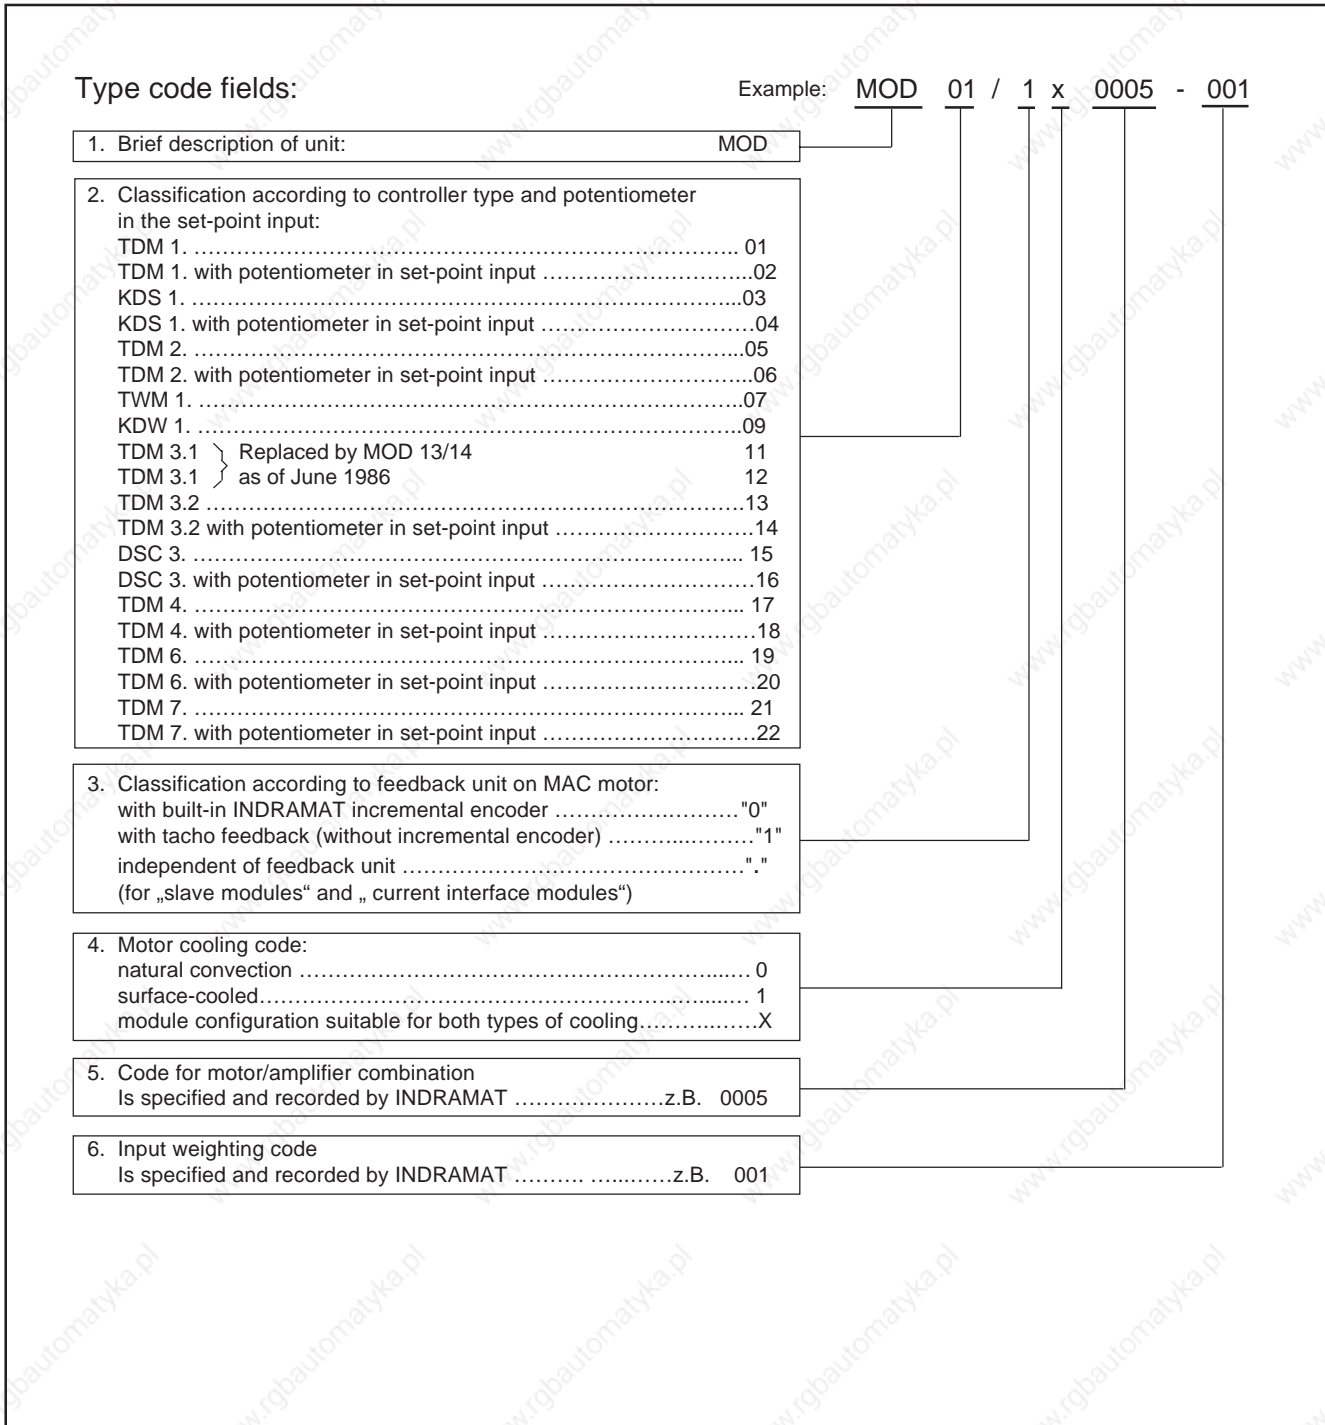

Fig. 18: Type designation of MOD programming module
The input weighting of the three inputs is stated in rpm/V on the rating plate of the MOD programming module (see Fig. 18). The last three digits of the module number determine the input weightings of the set-point inputs.
- Fig. 18 Type code of MOD programming module